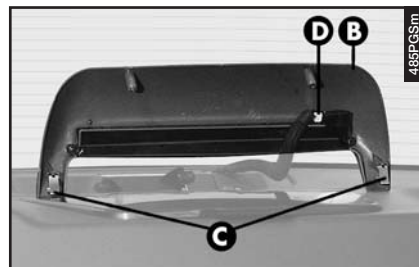

fig. 64
- Slacken the two screws fastening the light unit (**B**-fig. 64) and remove it releasing the two catches (**C**).
- Disconnect the connector (**D**-fig. 64) of the light unit.
- Connect the connector (**D**-fig. 64).
- Re-position the unit correctly firstly inserting the two catches (**C**-fig. 64) and then tightening the fastening screws.